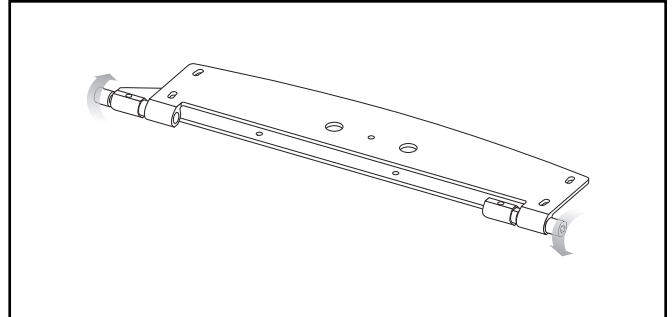

Figure 12. Loosen the 2 cap nuts.
- 2 Using the 6mm Allen tool, loosen the 2 cap nuts (see figure 12).